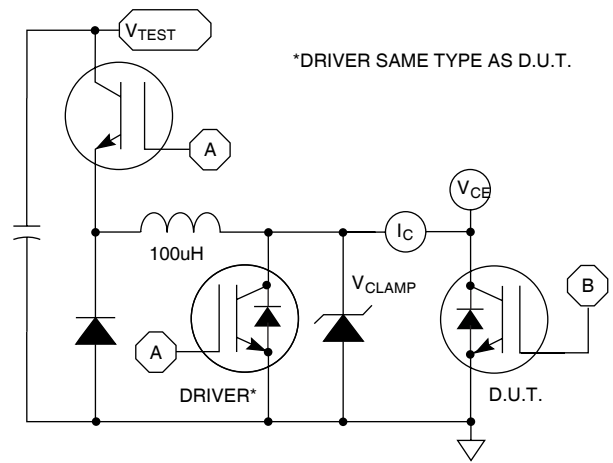

Figure 24, E_{ON1} Test Circuit
- ① Repetitive Rating: Pulse width limited by maximum junction temperature.
- ② For Combi devices, I_{ces} includes both IGBT and FRED leakages
- ③ See MIL-STD-750 Method 3471.
- ④ E_{on1} is the clamped inductive turn-on-energy of the IGBT only, without the effect of a commutating diode reverse recovery current adding to the IGBT turn-on loss. (See Figure24.)